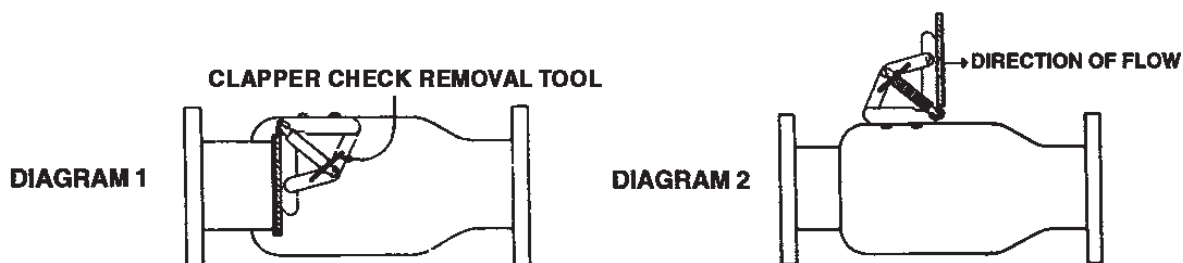
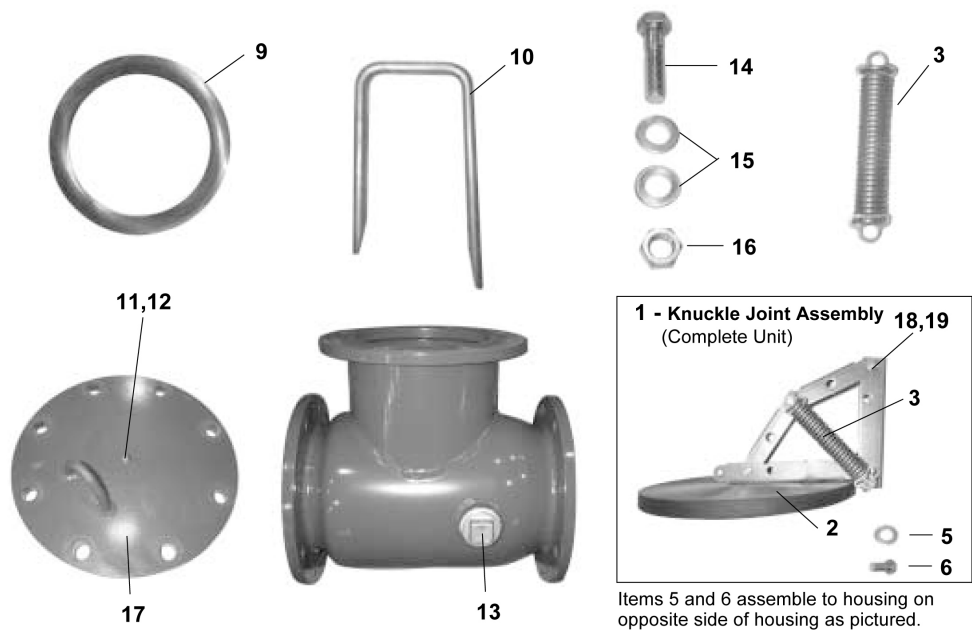

Figure 3: Clapper check removal tool
Figure 5: Check valve
4. Install proper size clapper check removal tool (see diagram 1 in Figure 3 and Item 10 in Figure 5). Be sure tool is pushed to within 1/2 inch of linkage.